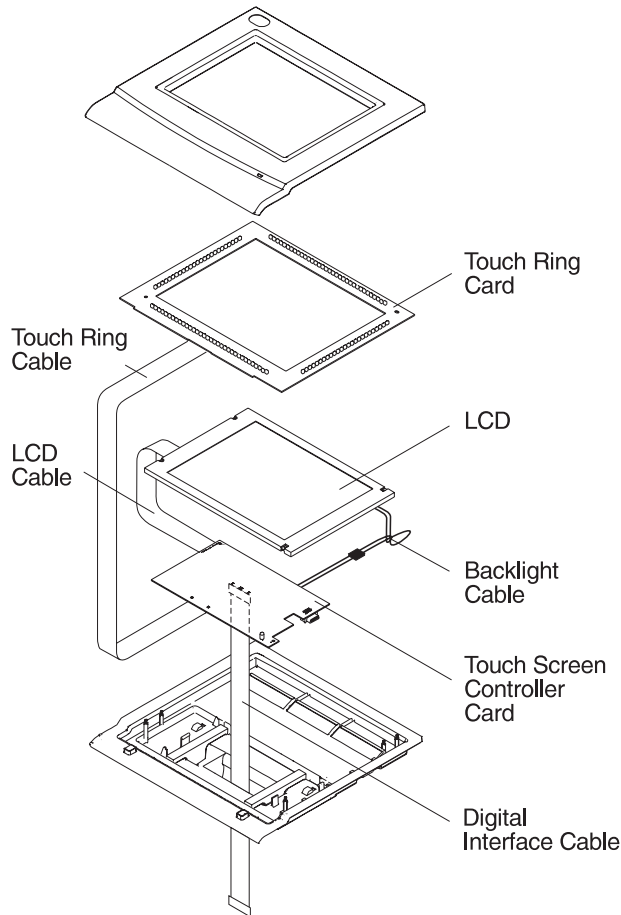

Figure 3-6. Removing the Tablet FRUs
- 2 Unplug the touch ring cable from the touch ring card. See Figure 3-6.